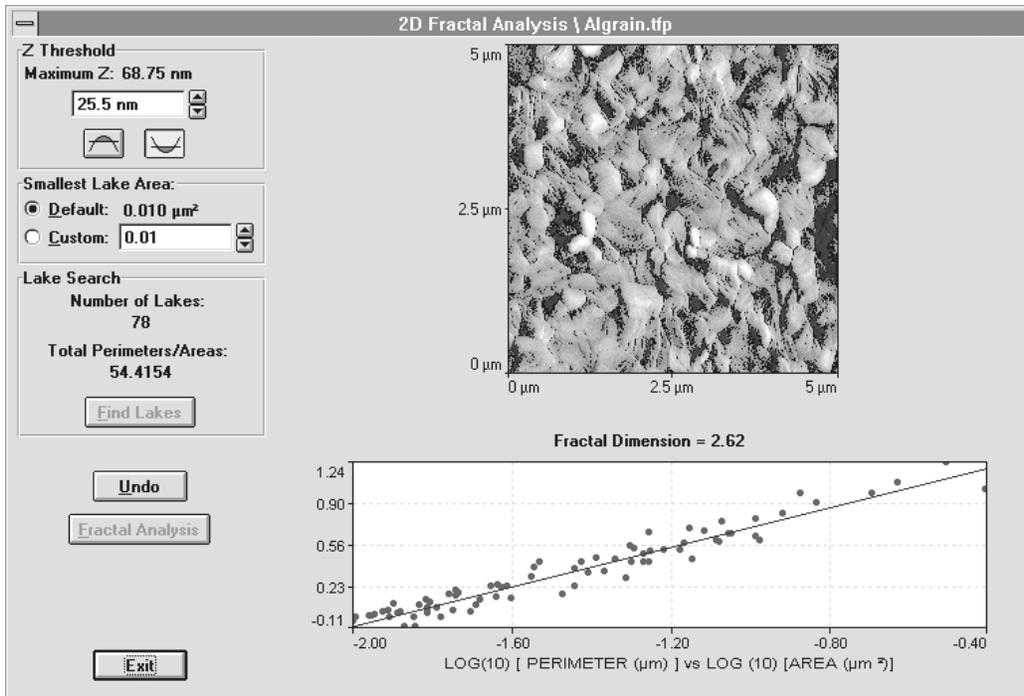

Figure 5-106. Log (10) Perimeter vs. Log (10) Area and the Fractal Dimension value.
After performing the lakes calculations, click on the Fractal Analysis button to plot the Log (10) Perimeter vs. Log (10) Area and the Fractal Dimension value, as shown in Figure 5-106.